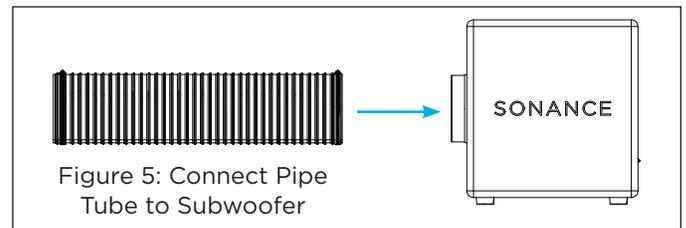

Figure 5: Connect Pipe Tube to Subwoofer
20. Connect the pipe tube to the subwoofer cabinet (see Figure 5).